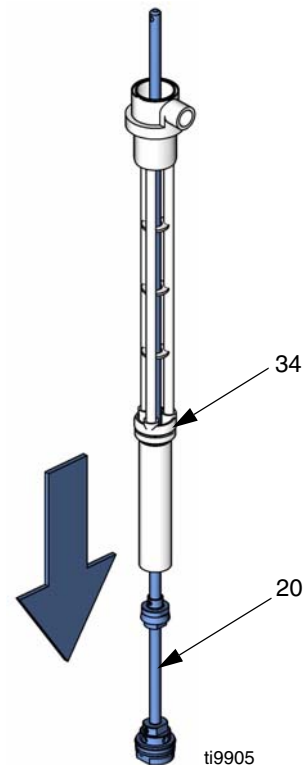

FIG. 18
7. Pull transfer shaft (20) out the bottom of pump body (34). See FIG. 18.